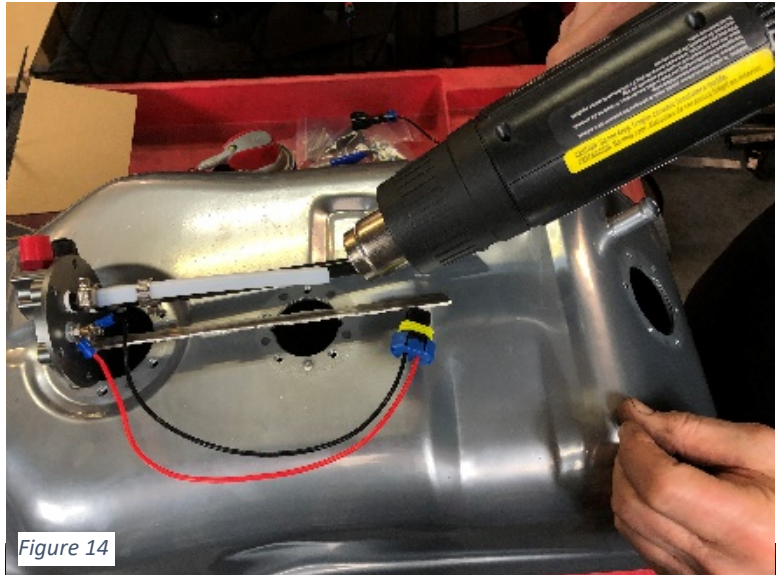

Figure 14
6. Measure depth of tank and determine where pump needs to be positioned vertically (Figure 7.) Once you have determined proper pump location so that filter sock will be within an 1/8" of the bottom of the tank when installed, cut the opaque hose and metal support rod to the desired length (Figure 8 & 9.) Using a heat gun, heat the end of the hose that will go onto the fuel pump (Figure 14). Push the heated hose onto the outlet nipple of the pump. **Note: Be sure to push straight and evenly. Do not force as pump nipple can break. If hose is not fully on pump nipple, reheat hose prior to pushing further.** (Figure 17) Secure with a hose clamp. (Item 10)
2. Measure depth of tank and determine where pump needs to be positioned vertically. Once you have determined proper pump location so that filter sock will be within an 1/8" of the bottom of the tank when installed, cut the opaque hose and metal support rod to the desired length. Using a heat gun, heat the end of the hose that will go onto the fuel pump. (Figure 14.) Push the heated hose onto the outlet nipple of the pump. (Figure 17) Secure with a hose clamp. (Figure 17) Secure with a hose clamp.